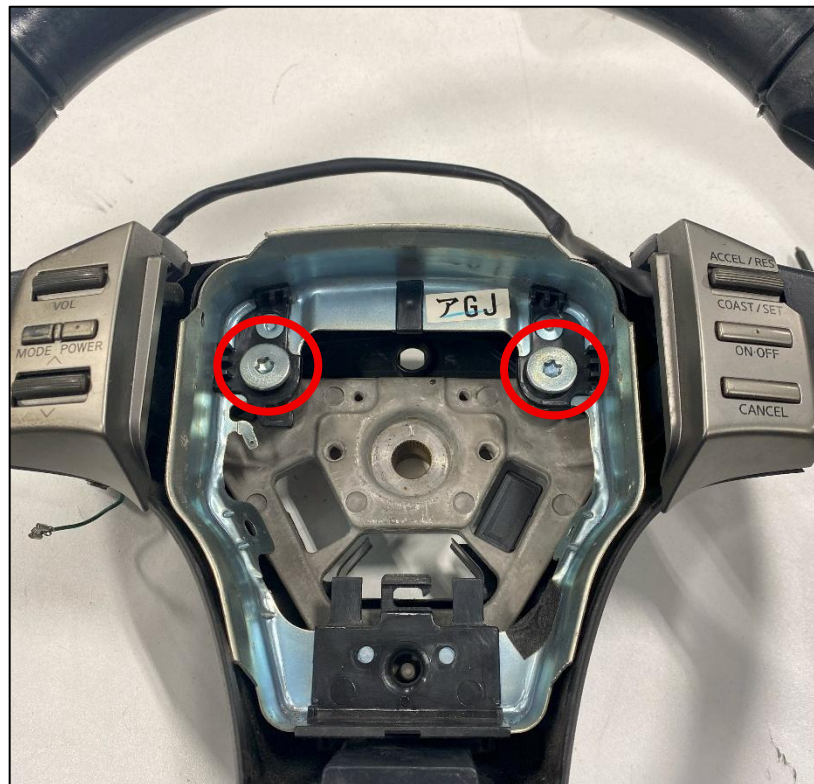

Figure 13
19. Reinstall the (2) two T40 TORX Screws removed in Step 12 into the Airbag Panel and new Steering Wheel. These Screws will not be tightened all the way. If they are tightened all the way, the horn will not be able to work. The Airbag Panel should be able to compress a bit. *Figure 13.*